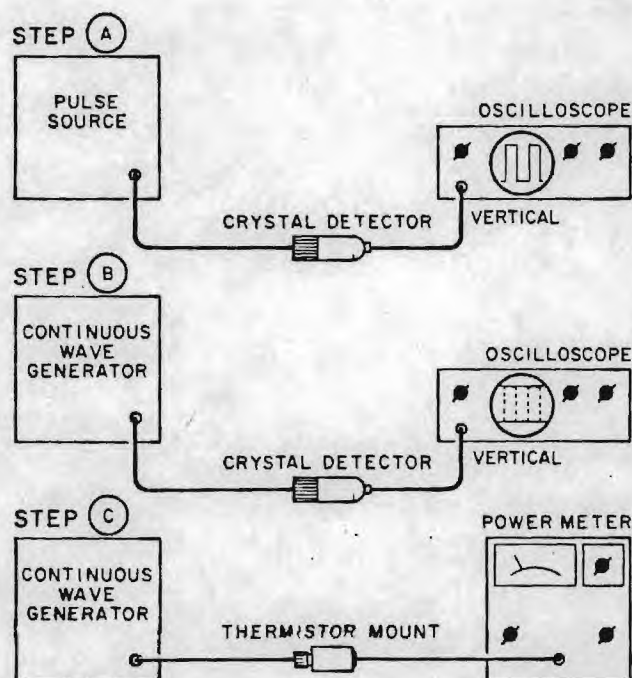

Figure 1. Peak Power Measurement
25. The power applied to the detector can be either modulated or continuous wave (CW). If modulated at a 1000 Hz rate, an SWR meter can be used as an indicator. For CW detection, a dc milliammeter or millivoltmeter can be used as the indicator.
27. Peak Power Measurement. The arrangement of equipment for peak power measurement is shown in Figure 1. The procedure involves calibration of an oscilloscope which, in turn, is used to calibrate a CW generator. The output of the calibrated CW generator is measured with a power meter; the peak power of a pulse is thereby measured. The procedure is as follows:
- Connect equipment as shown in Figure 1, step a. Observe pulse on a dc-coupled oscilloscope. Using a marking pencil, mark on the graticule the base-to-peak amplitude of the pulse envelope.